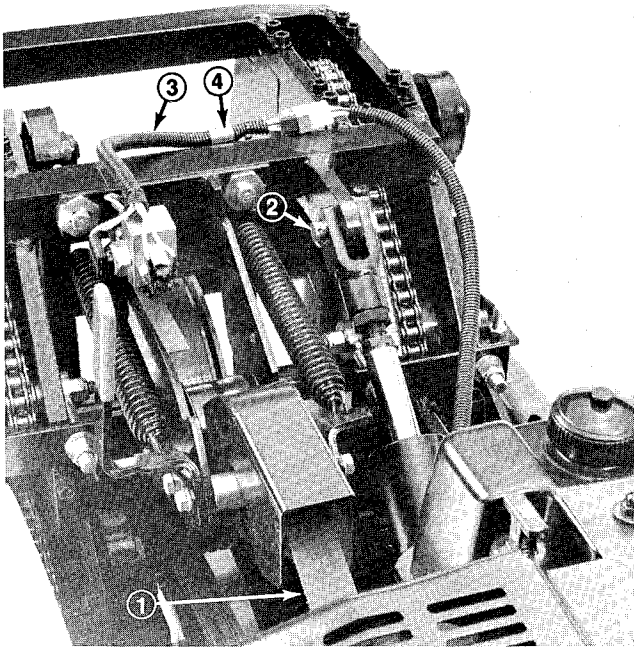

Figure 48
4. Remove the coring head drive belt from the engine pulley (Fig. 48).
7. Remove hair pin cotter from lift cylinder pin connected at coring head (Fig. 48), and remove pin.
8. Remove nut securing wire harness clamp to chassis (Fig. 48).